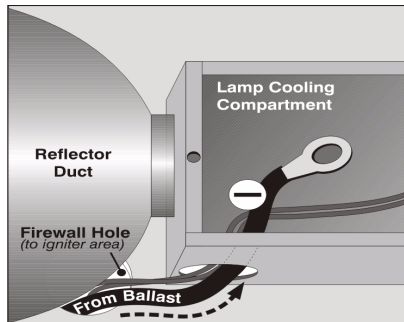

Figure 3-11 Feed Black Lead into Compartment
6. Route the **NEGATIVE (-) BLACK** lamp lead through the hole in the cooling compartment floor (**Figure 3-11**). The igniter wires from terminal **5** and the PCB are also routed here.